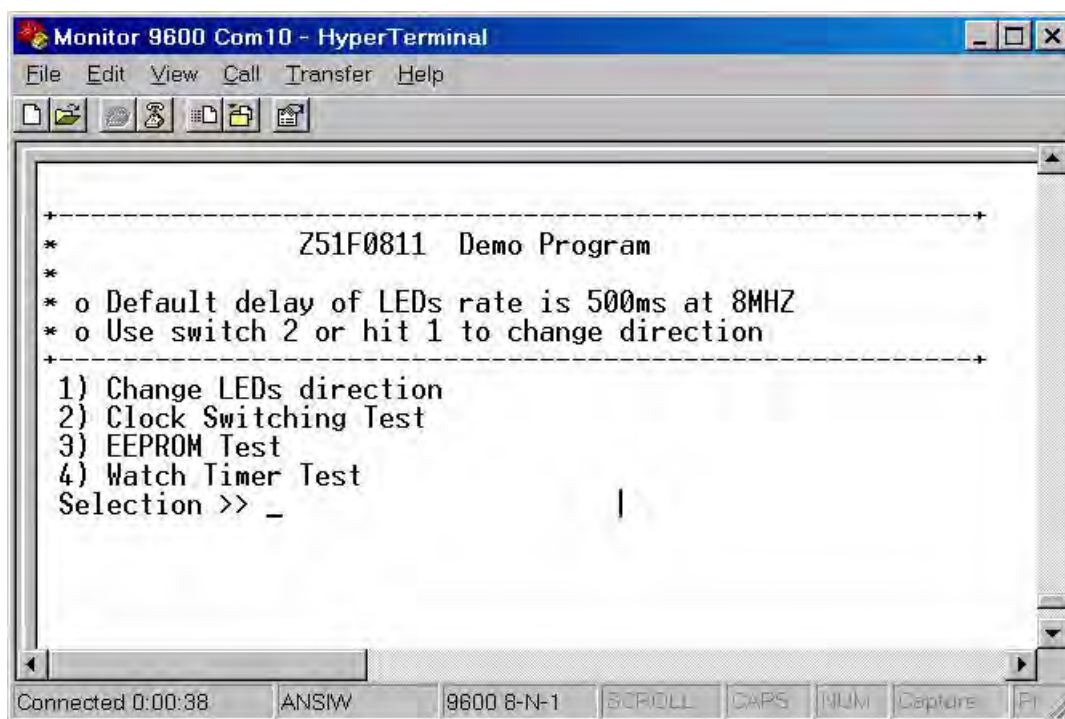

Figure 29. Demo Program Menu in HyperTerminal
3. Click the **Call** button to connect to the Z51F0811 Board. Upon connection, you should be able to see the Demo program menu shown in Figure 29.